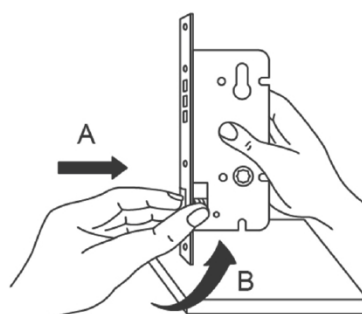

Fig. 2
- 2° - Push the latch inside the front plate (fig. 2).